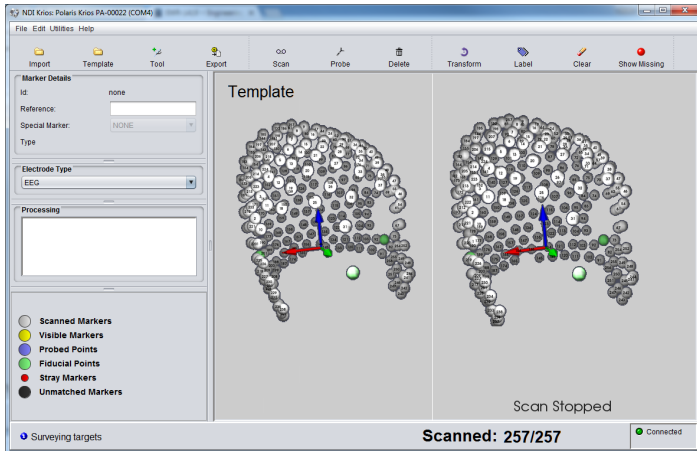

Figure 3-11 Template Assist with Labelled Point Cloud
4. Once you have four markers labelled, click off the point cloud. The template is applied to the unlabelled point cloud, which becomes fully labelled. See Figure 3-11.